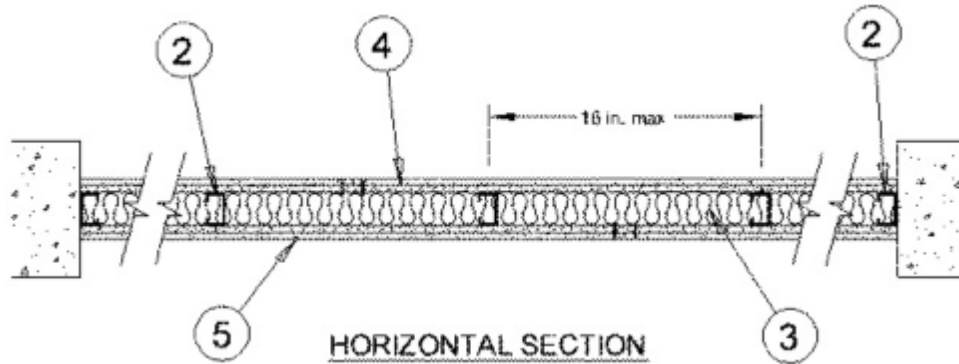

FIGURE 1—Nonbearing Wall Rating—1 HR.
4.2.1 Fire-resistance Wall Rating: The fire-resistance-rated assembly shown in Figure 1 is based on a UL design. Homasote 440 SoundBarrier® may be used in fire-resistance-rated wall assembly when constructed as indicated in the design. When using this assembly, all details must be in accordance with the specifications contained in the UL *BXUV GuideInfo*.